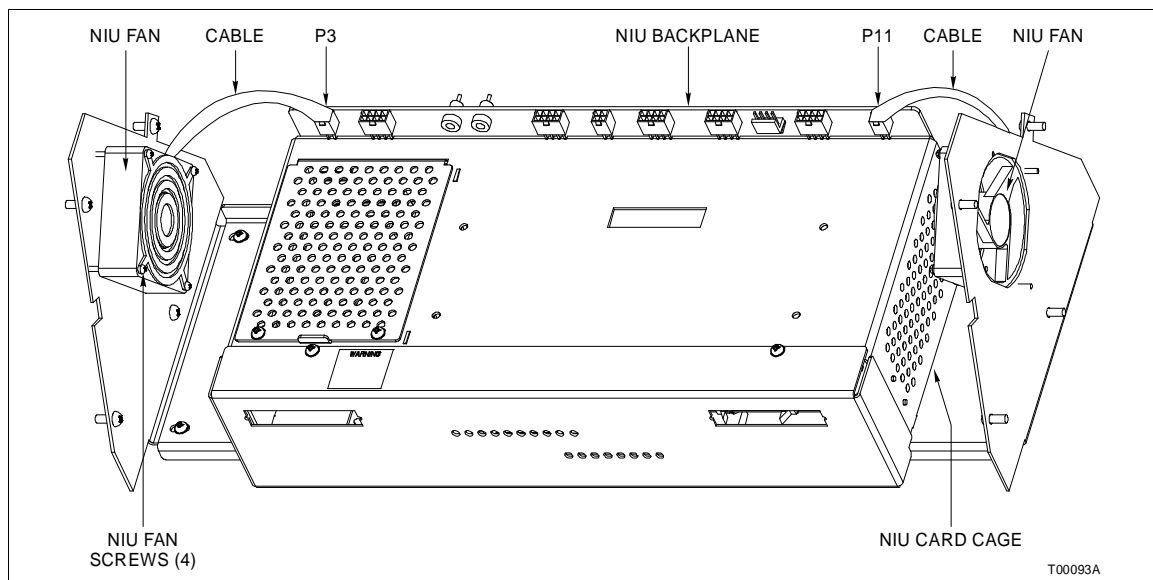

Figure PR24-1. NIU Fan Replacement
2. Disconnect the NIU fan from P3 or P11 (depending on which fan) on the NIU backplane (Fig. PR24-1).